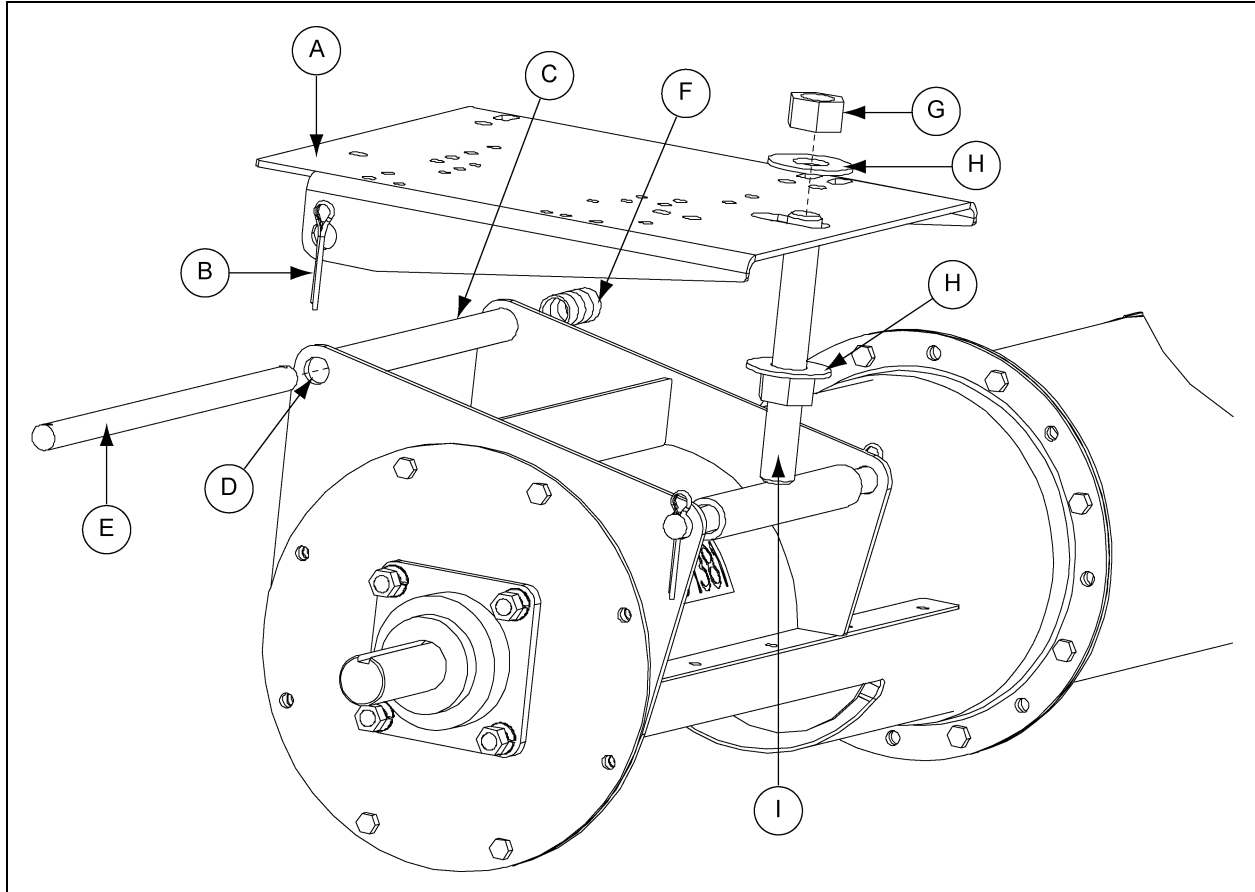

Figure 40
1. Secure one of the motor mount adjustment nuts (G) and one of the motor mount adjustment washers (H) approximately 3/4" of the way down the motor mount adjuster's threaded shaft (I).
2. Once the nut (G) and washer (H) is secure, slip the motor mount plate (A) over the adjuster and align the pivot holes (D) with the pivot tube (C). (See Figure 40.)